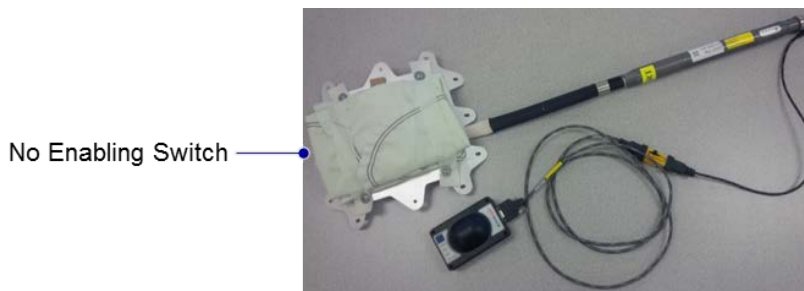

Figure 7 – Structure Mounted System Without an Enabling Switch
- Structure-mounted systems (Figure 7) do not have enabling switches.